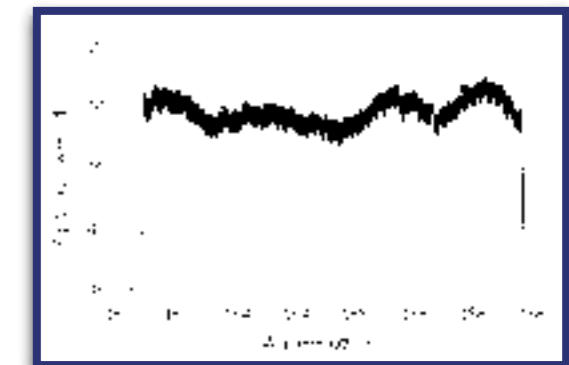

Figure 6: Received Optical spectrum after CSF 7000km - 100x100Gbit/s PDM-QPSK with 40GHz spacing
CSF and a channel spacing of 40GHz. Figure 6 presents the received spectrum of 100 channels at 100Gbit/s PDM-QPSK with a 40GHz channel spacing after 7000km transmission over CSF. Such a capacity has been demonstrated in Alcatel-Lucent's laboratories [5]. The reported results demonstrate industrial margins for system reach up to 8000km when using Soft Decision (SD) FEC. Soft Decision FEC is bringing 2dB of additional margin on the FEC limit compared to Hard Decision (HD) FEC [6].